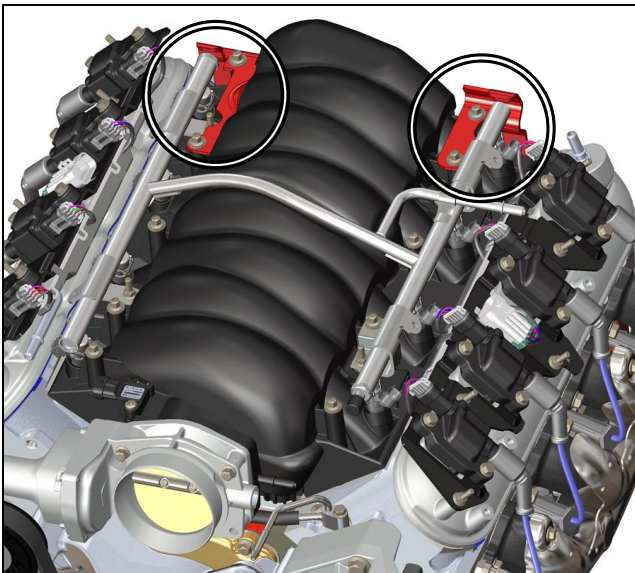

Figure 6
**NOTE:** On many cars there is a bracket at the rear of one or both rails. If there is interference, the brackets will need to be modified (Figure 6).